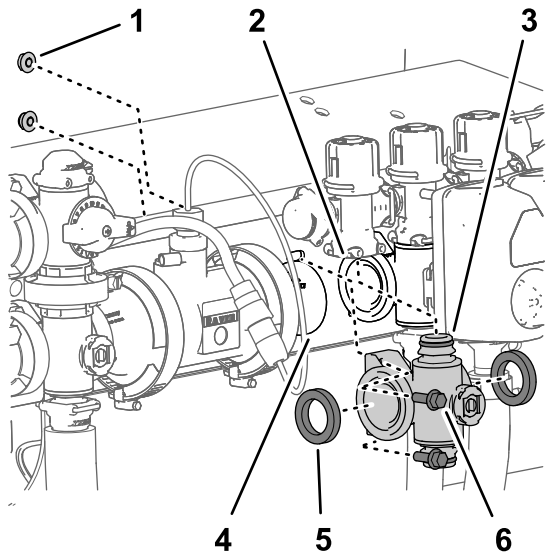

**Figure 107**
3. Remove the 2 flange clamps that secure the section-manifold valve to the flanges of the adjacent components (Figure 107).